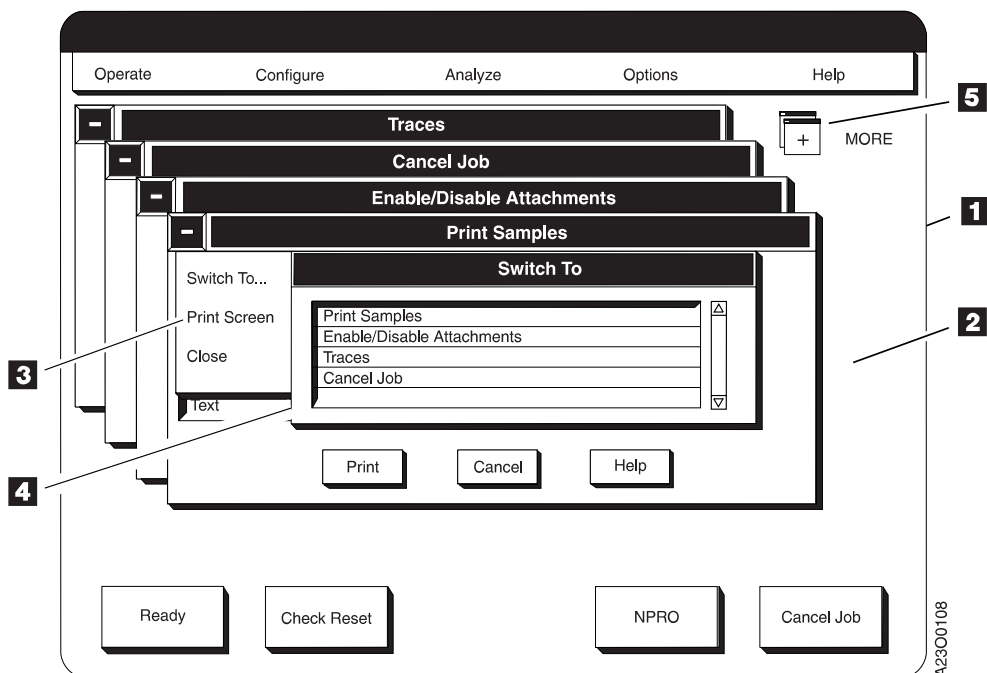

Figure 6. Procedure Windows in Cascade Format
- A selection list box with many items from which to select. See Figure 6 on page 44 for an example of a pop-up window with a selection list box.
Displays a pop-up window that lists all of the procedures that are currently open (for example, see **1** on Figure 6 on page 44). Selecting any procedure name from the list moves the window for the procedure to the front.
Figure 6 on page 44 shows: